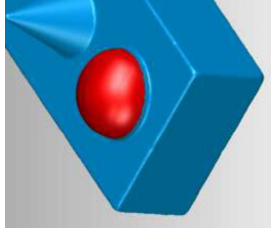

Figure 58
- The **Sphere** will be fitted to the selected region in **Figure 58**.